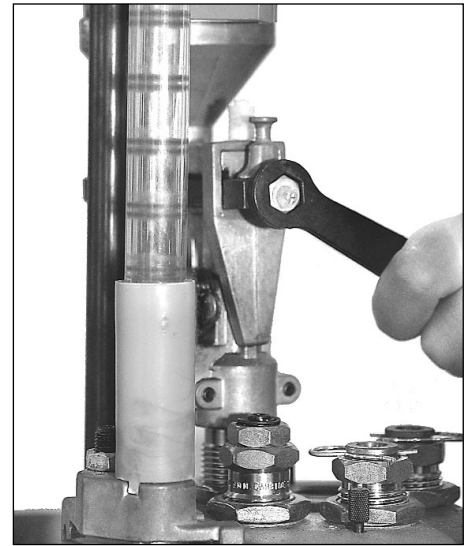

FIG 138
5. Using a 7/16" wrench, give the powder bar bolt a quarter of a turn clockwise or counter-clockwise as necessary to adjust the powder charge **FIG 138**. Clockwise will increase the powder charge and vice versa.